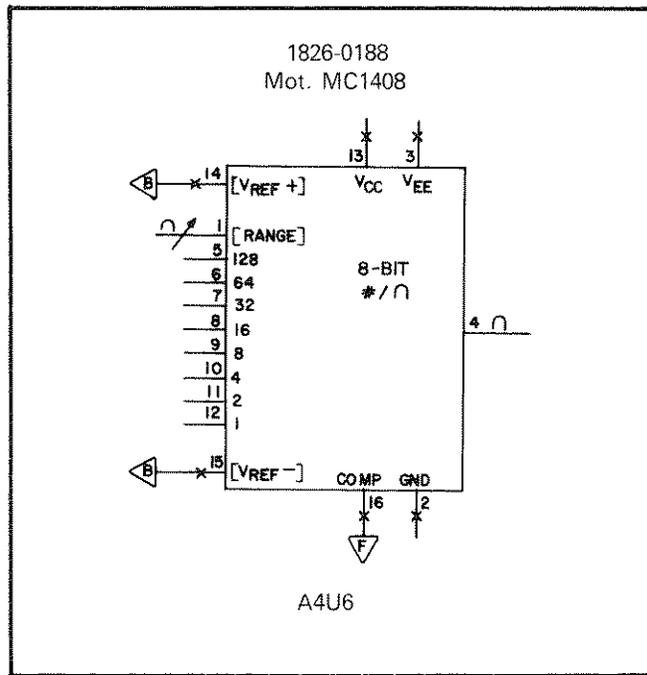
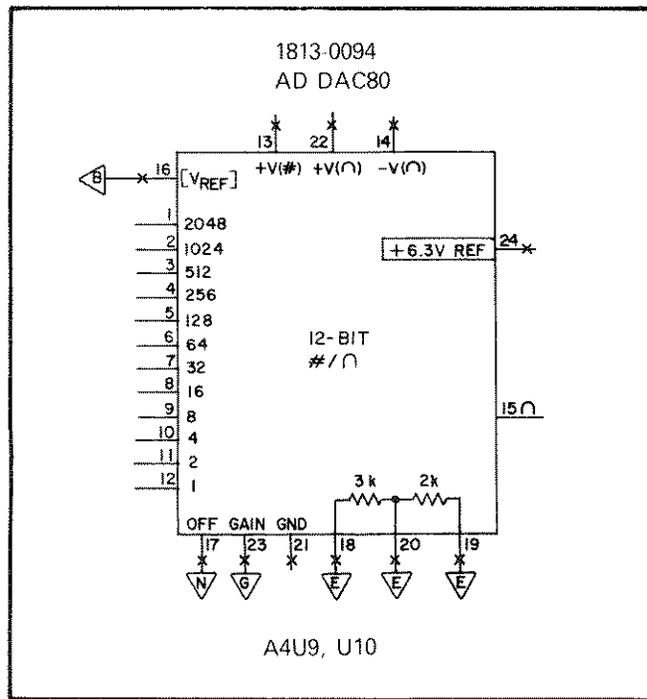

Figure B-32. 8-Bit Digital-to-Analog Converter
Figure B-33. 12-Bit Digital-to-Analog Converter
**Digital-to-Analog Converter (DAC).** The analog output of a digital-to-analog converter is a current that is proportional to the maximum possible current divided by the binary value at the digital input. Figure B-32 shows an eight-bit DAC that also includes an analog multiplier input (range). The 12-bit DAC shown in Figure B-33 includes two feedback resistors provided for use with an external op amp.